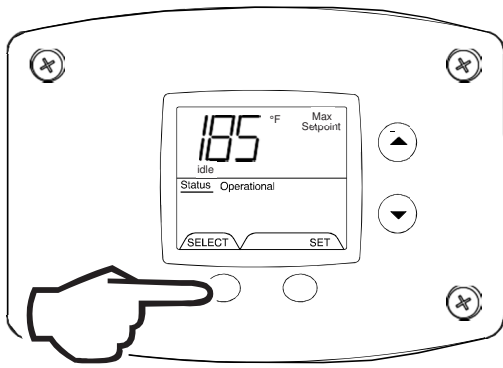

Fig. 42
1. In service mode press the 'Select' button until 'Max Setpoint' is displayed (Fig. 42).